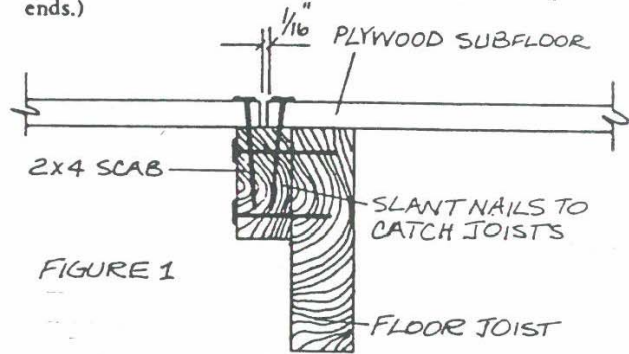

FIGURE 1
If the last panel in the first row comes out 1 in. or more short of the inside edge of the end joist (due to an odd building dimension), nail a 2 x 4 "scab" (a block) to the end joist to support the panel end (see Figure 1). Then use a filler strip of scrap material as required. Remember that you can increase the panel end gaps slightly to gain length in a row. (Always maintain a minimum gap of 1/16 in. between panel ends.)
3. Since floor joists are generally lapped side-by-side over the interior girder, you will need to "step back" your panel layout somewhere near this point. Usually, house dimensions and joist overlap work out so that a joint between rows of panels falls over the joist lap area. If so, you have no problem. You will simply cut the first panel of the next row 1 1/2 inches short to allow for the lap. If, in some unusual case, this joint does not fall over the lap, it will be necessary to "scab" a 2 x 4 on the side of a joist every 8 ft., to support the end of one of the panels. (See Figure 1.)